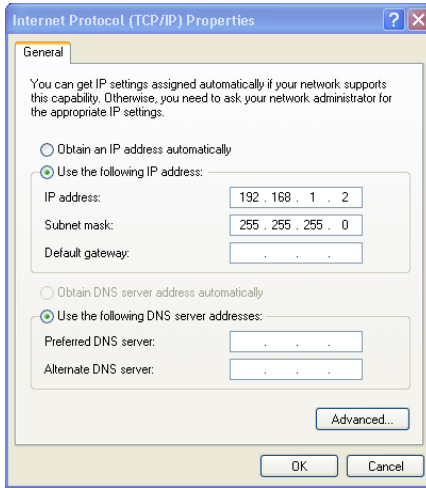

Figure 8: Internet Protocol (TCP/IP) Properties Window
6. Select Use the following IP Address, and fill in the details as shown in Figure 8.